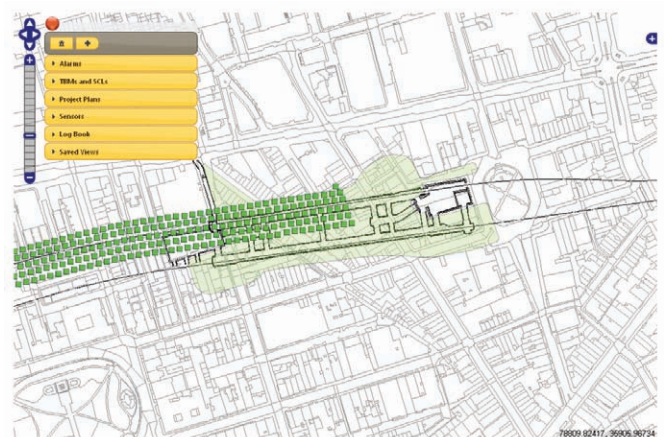

Figure 2. ARGUS with GIS interface.
- The latest version incorporates GIS functionalities (Fig 2), TBM (tunnel boring machine) data, multimedia records (videos and photographs) and permission group management.